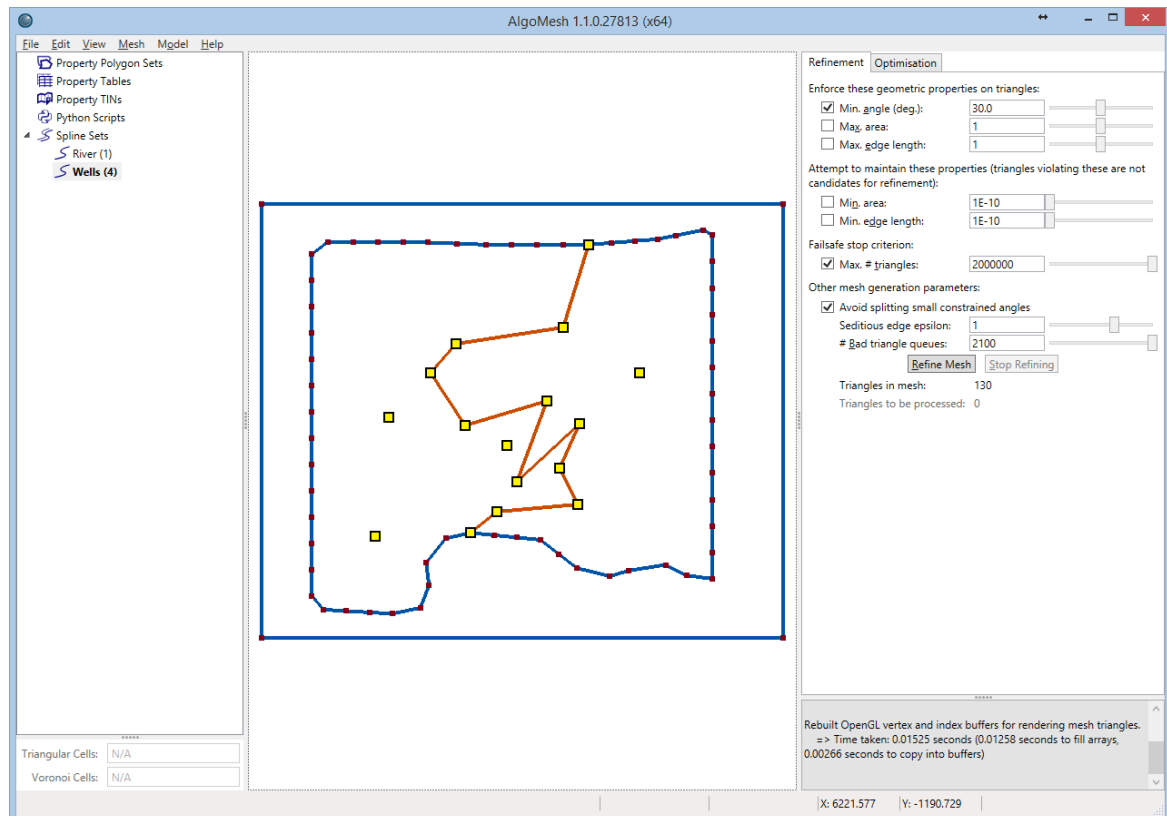

Figure 63: The wells that were manually added to the Wells spline set are shown in their respective locations around the river.
- Now **create a few wells** in the model by **Ctrl-clicking** once for each well. Create at least four wells as shown in Figure 63.